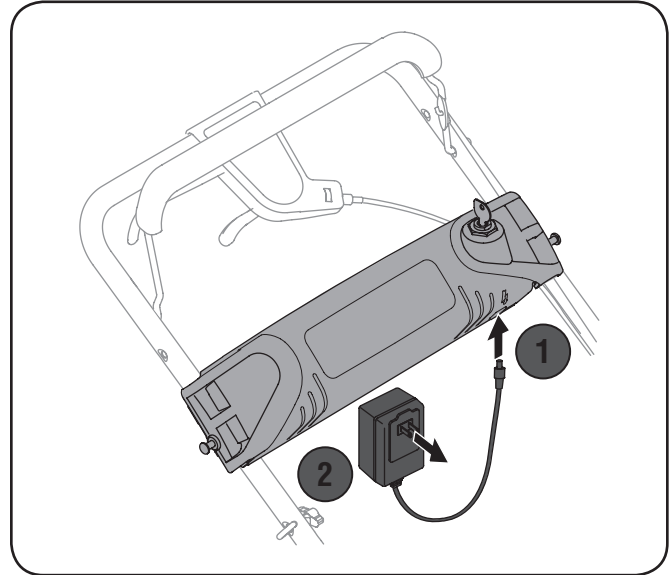

Figure 7-4
- Plug the battery charger into the port on the underside of the battery housing. See Figure 7-4.